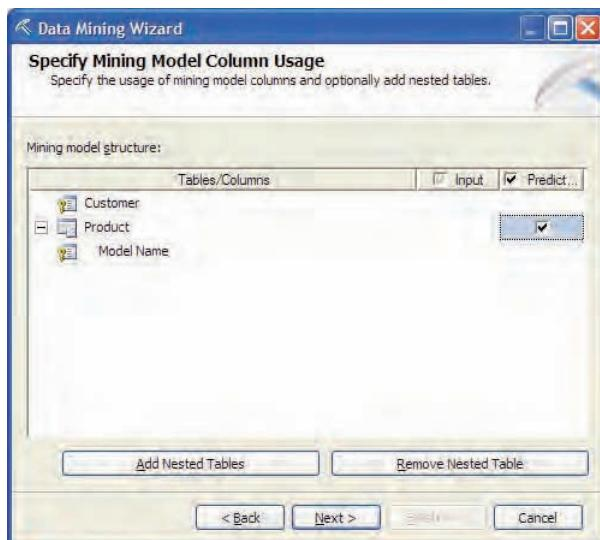

Figure 8.14 A data mining model views a nested table as a column which can be used for predictions.
9. Recall that the mining model treats a nested table as an input column. Check the *Predict* checkbox next to the Product column to instruct the model to predict the product associations (Figure 8.14).